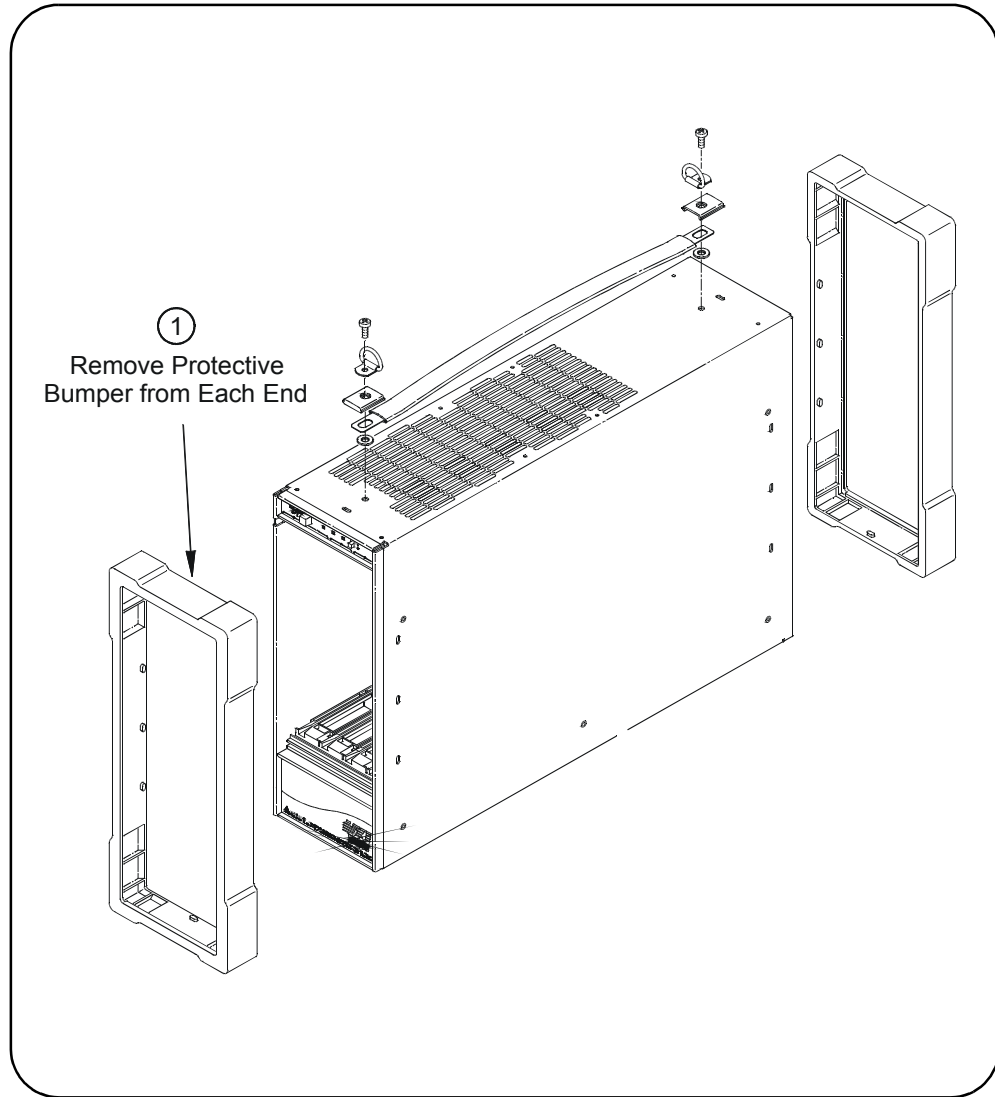

Figure 2-10. Removing Mainframe Items
- 1 Slide four 10-32 Self-Retained Nuts on the selected holes in the right hand vertical column of the cabinet. See Figure 2-10 for hole locations.
Installing the Mainframe Install the Mainframe in the Rack (Figure 2-10)